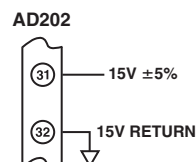

Figure 3a.
**Powering the AD202.** The AD202 requires only a single 15 V power supply connected as shown in Figure 3a. A bypass capacitor is provided in the module.